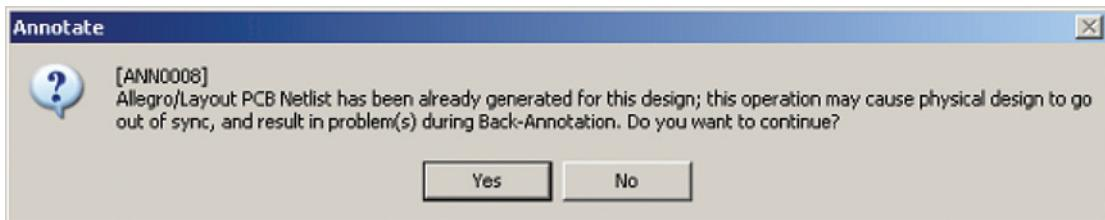

Figure 9-58 Forward annotation warning.
*Fig. 9-58. If the design goes out of sync, you may have to rename all of the components and reenter all of the values on the schematic. You will likely have to make a new.MNL file and start over with a new board in Layout. One way that is guaranteed to cause your design to become unsynchronized is to renumber the parts in Layout and then back annotate to Capture.*